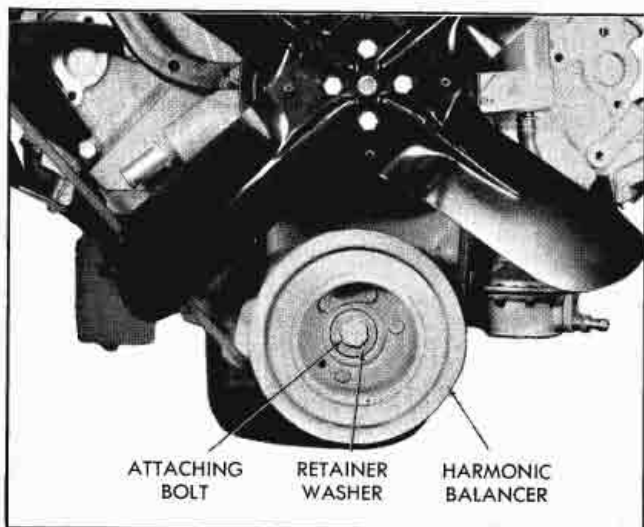

Fig. 6-41 Harmonic Balancer
2. Position fan so wide angles will be at top and bottom allowing access to balancer (Fig. 6-41).